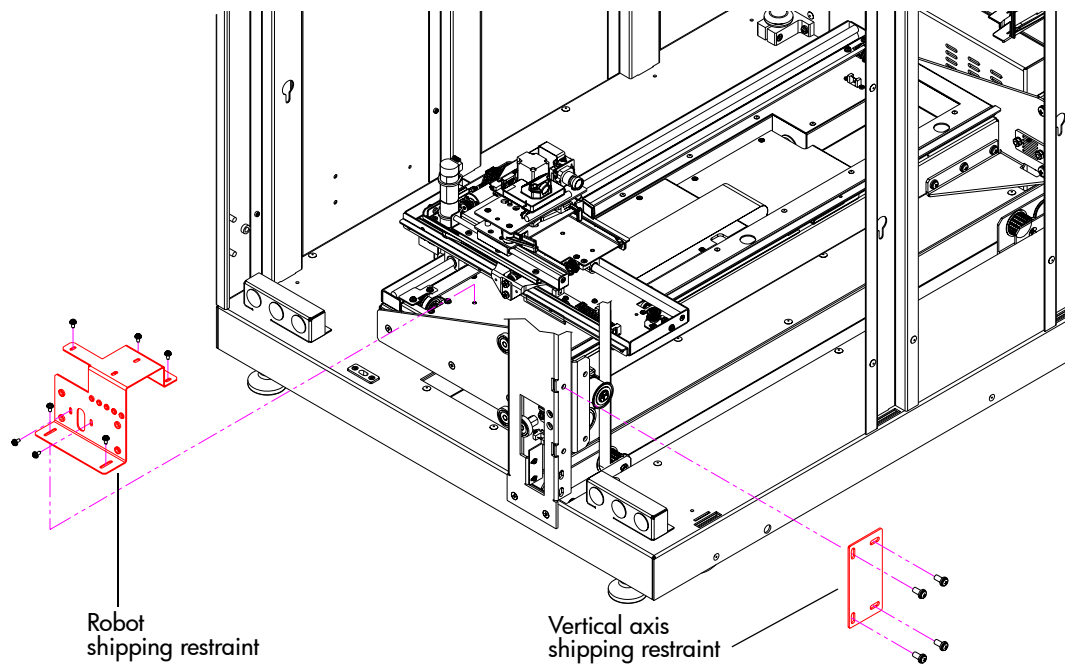

Figure 41: Installing the robotic shipping restraint
5. Install the robotic shipping restraints (see Figure 41).